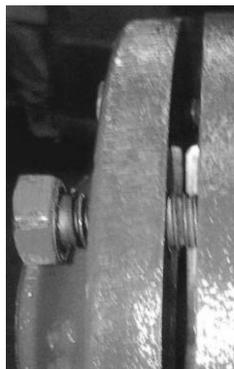

Figure 5: Re-install the cover plate
10. Re-install the cover plate with a criss-cross bolt tightening pattern and push the inlet vanes (baffle) into the body. Make sure all bolts are tightened. See Figure 5.